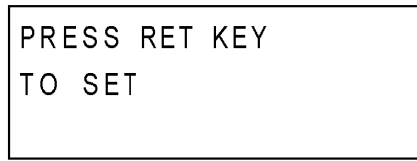

Fig. 37
- (5) Press the "RET" key. The display shifts to one as shown in Fig.37.